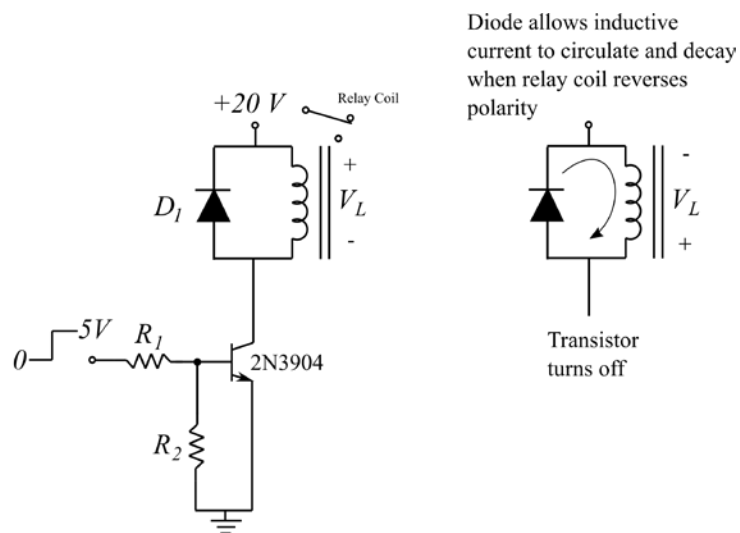
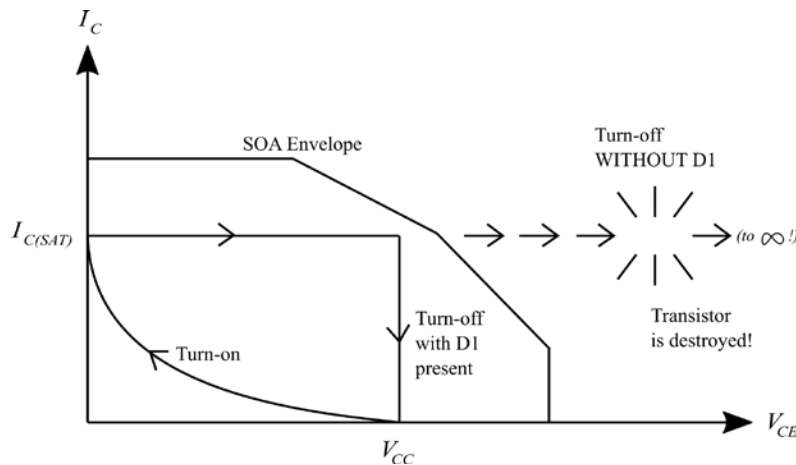

Figure 3: Using a BJT to control a relay.
Figure 4: Switch trajectory with and without D_1 .
In Part A of this experiment, a small switching transistor will be used to drive a relay coil. This circuit, shown in Figure 3, is useful for controlling high-current or high voltage devices as well as circuits.
An important consideration when driving any inductive load is to provide a current path for the inductor, as the transistor turns off. This is accomplished in Figure 3 with diode D_1 . When the transistor is turned on, the inductance of the relay coil slows the rise in current. Being reverse-biased, the diode does not conduct. When the transistor turns off, the inductor voltage reverses polarity and becomes a source in order to maintain inductor current flow. If the diode were not present, V_L would increase to whatever voltage is necessary to maintain the current. This could be hundreds or *thousands* of volts! The transistor would not survive. With a suitable diode in place, the current can continue to circulate until the inductive energy is dissipated. These two cases are shown on the V-I plane in Figure 4. To guarantee survivability, we must confine operation to the safe operation area (SOA).
1. Design the switching circuit of Figure 3 to drive a small relay that will be provided for you in the lab. Relay coils sometimes give the nominal voltage and current required for the coil. In other cases (such as ours), the manufacturer provides the nominal coil voltage along with the approximate coil resistance. To ensure that the transistor will always be saturated when ON, **perform the following calculations and write the values in your lab notebook:** (since a minimum $V_{CE(SAT)min}$ is not given, use 0).